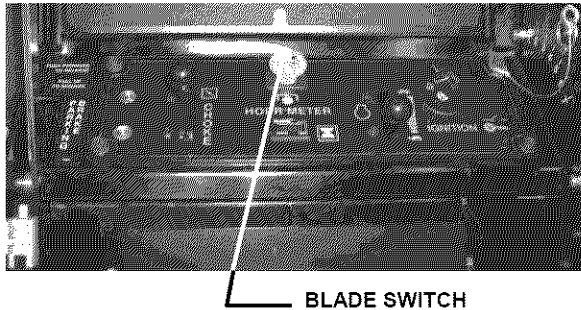

FIGURE 3.2
3.1.4. Check Blade Switch to insure it works freely. See Figure 3.2.
3. Push blade switch in to "OFF", blades disengaged position and engage parking brake. See Figure 3.2.
2. Pull the Blade Switch up to the "ON" position to engage or turn "ON" the mower blades. See Figure 3.2.